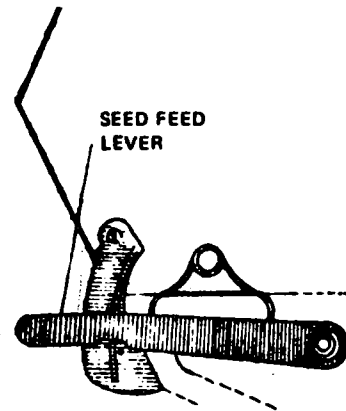

Fig. 2
a) Actuate the seed feed lever (Fig. 2).